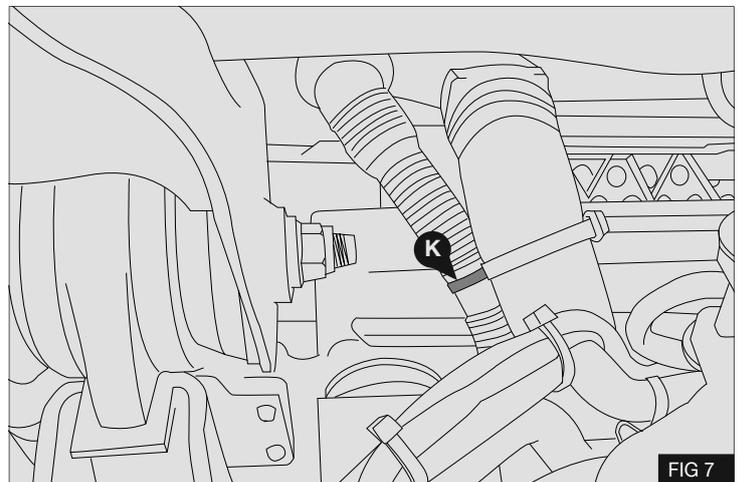

FIG 7
12. Locate the remote oil fill hose connection to the vehicle cab. Remove cable tie (K) - Fig 7